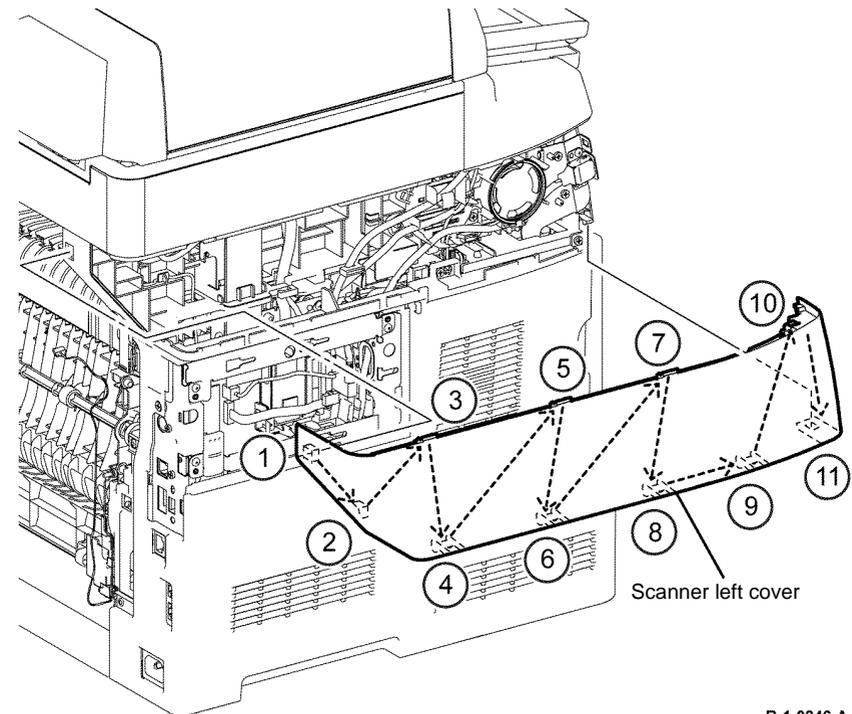

Figure 1 Scanner left cover removal
7. Release eleven hooks, then remove the scanner left cover, Figure 1.